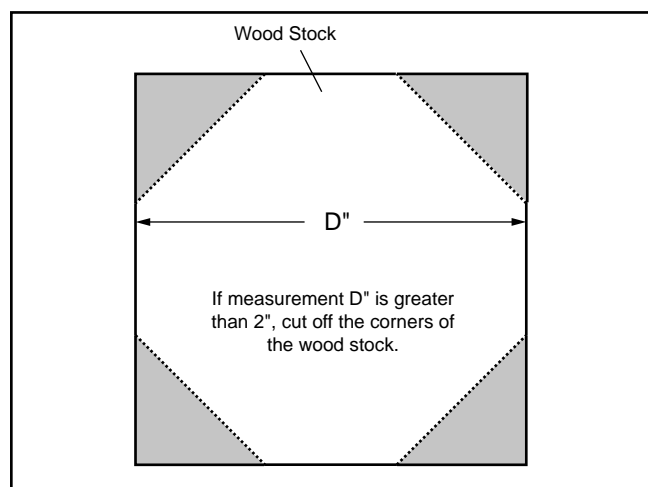

Figure 6A. Cross-section of turning stock.
2. When turning stock with a diameter greater than 2", remove the corner length edges with a hand plane or similar operation as shown in **Figure 6A**.